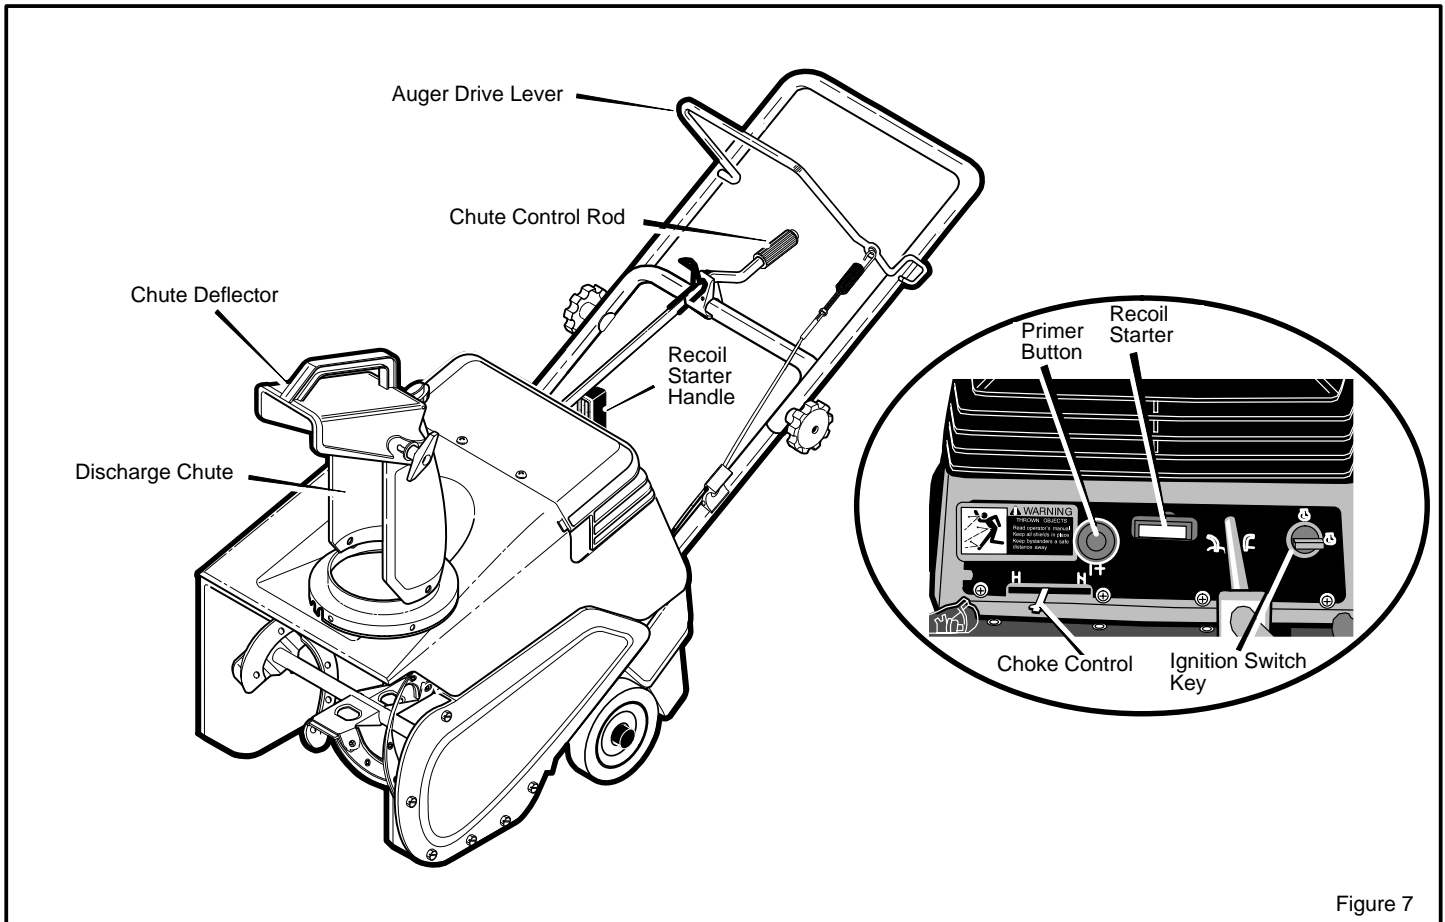

Figure 7
1. Turn the **chute control rod** to set the direction of the snow throwing. (See Figure 7)